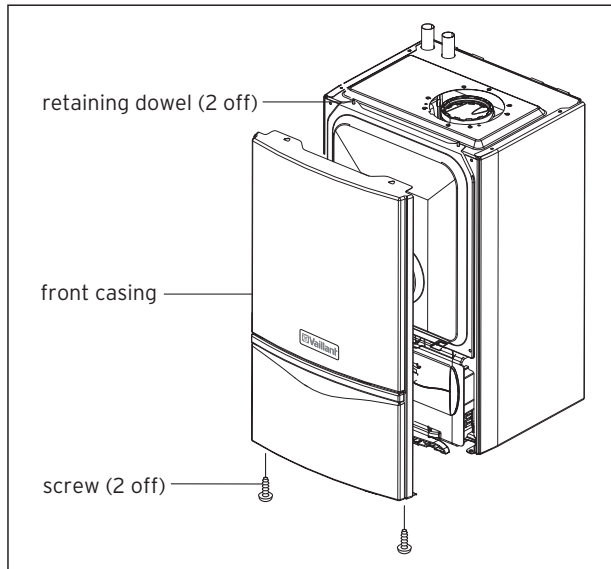

Fig. 8.1 Panels
- Remove the two screws on the front of inner case and lift off, see fig 8.1.